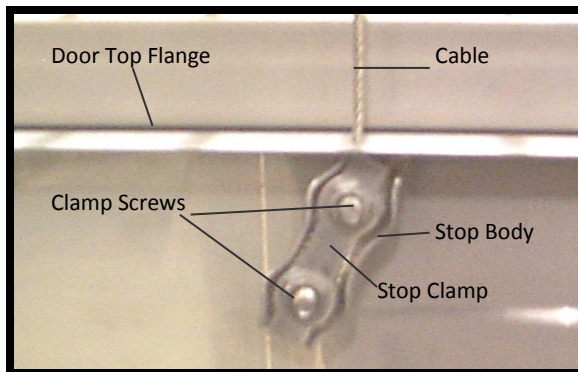

Figure 44: Cable Stop
3. Pass the end of the cable down through the hole in the center of the door top flange (Figure 44).